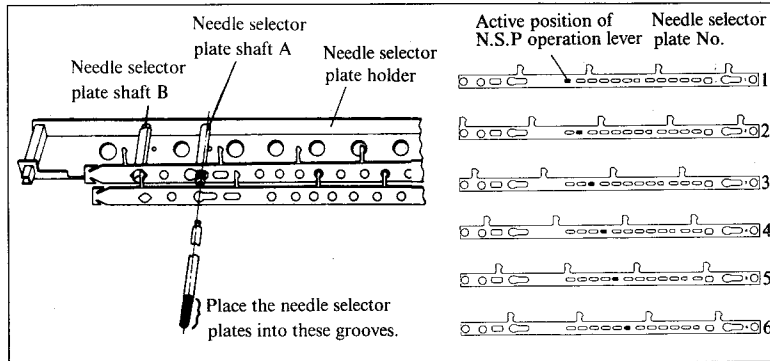

Figure 12-12
(1) Fit needle selector plate number 1 into the seven grooves in needle selector plate shaft A of the needle selector plate holder, and, sliding it toward the left, push it in (refer to figures 12-12).